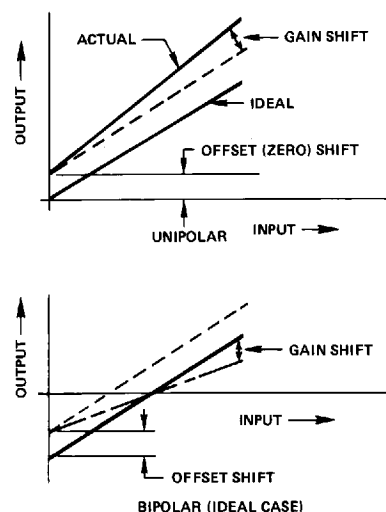

Figure 3. Unipolar and Bipolar Drifts
Temperature error analysis in the unipolar mode is straightforward: there is an offset drift and a gain drift. The offset drift (which comes from leakage currents and drift in the output amplifier (OA)) causes a linear shift in the transfer curve as shown in Figure 3. The gain drift causes a change in the slope of the curve and results from reference drift, DAC drift, and drift in  $R_{GAIN}$  relative to the DAC resistors.
Note that if the DAC and application resistors track perfectly, the bipolar offset drift will be zero even if the reference drifts. A change in the reference voltage, which causes a shift in the bipolar offset, will also cause an equivalent change in  $I_{REF}$  and thus  $I_{DAC}$ , so that  $I_{DAC}$  will always be exactly balanced by  $I_{BP}$  with the MSB turned on. This effect is shown in Figure 3. The net effect of the reference drift then is simply to cause a rotation in the transfer around bipolar zero. However, consideration of second order effects (which are often overlooked) reveals the errors in the bipolar mode. The unipolar offset drifts discussed before will have the same effect on the bipolar offset. A mismatch of  $R_{BP}$  to the DAC resistors is usually the largest component of bipolar drift, but in the AD DAC80 this error is held to  $10\text{ppm}/^{\circ}\text{C}$  max. Gain drift in the DAC also contributes to bipolar offset drift, as well as full scale drift, but again is held to  $10\text{ppm}/^{\circ}\text{C}$  max.